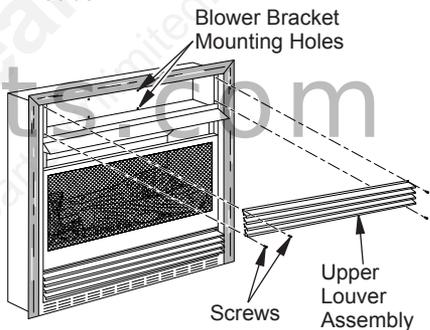
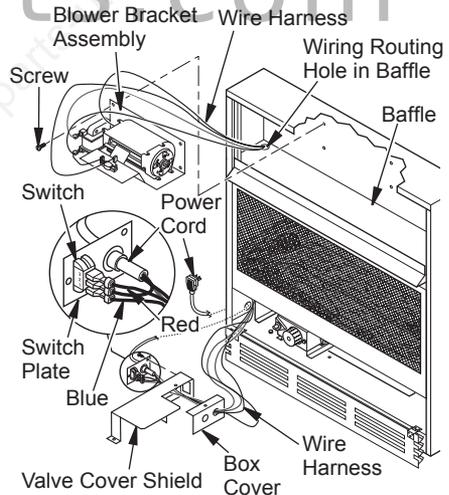
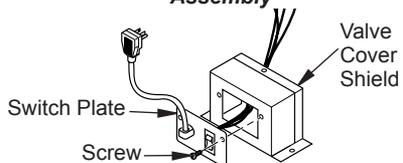

Figure 12 - Removing Upper Louver Assembly
Figure 14 - Installing Blower Bracket Assembly
Figure 15 - Installing Switch Plate to Valve Cover Shield
Built-in installation of this fireplace involves installing fireplace into a framed-in enclosure. This makes the front of fireplace flush with wall. An optional brass trim kit accessory is available (see *Accessories*, page 27). Brass trim will extend past sides of fireplace approximately 1/2". This will cover the rough edges of the wall opening. If installing a built-in mantel above the fireplace, you must follow the clearances shown in Figure 12, page 12. Follow the instructions below to install the fireplace in this manner. *Note: Your fireplace is designed to be used in zero clearance installations. Wall or framing material can be placed directly against any exterior surface on the rear, sides or top of your fireplace.*
2. Remove 4 screws from louver assembly (see Figure 12). Save these screws.
3. Note wire locations on back of AUTO/OFF/ON switch. The terminals on back of switch are numbered 1, 2 and 3. Carefully remove red wire from terminal 1 and blue wire from terminal 3. Black wire can remain on middle terminal 2 (see Figure 14).
5. In the top of the heater cabinet, locate 4 mounting holes on outer casing. Align these 4 holes with those on the blower bracket assembly. Attach blower bracket assembly to the outer casing with 4 #10 screws provided (see Figure 14).
- lower opening above where valve shield was removed (see Figure 14).
7. Insert 4 wire harness into one of the round holes in the rear of the valve cover shield and through the rectangular hole in the front of shield (see Figure 14).
9. Install switch plate on valve cover shield with 2 #10 screws provided (see Figure 15). Reinstall valve cover shield. Route power cord out of cabinet by inserting it through the bushing on the outer casing (see Figure 14). Plug fan kit into 120-Volt grounded power supply and test operation. *Note: When switch is in the AUTO position, the fan will start after heater has run for a few moments. The fan will continue to run for several moments after heater has been turned off. When switch is in the ON position, the fan will run until turned to OFF. Reinstall upper louver assembly and hood if previously removed, (see Figure 12, page 12). Close lower louver door.*